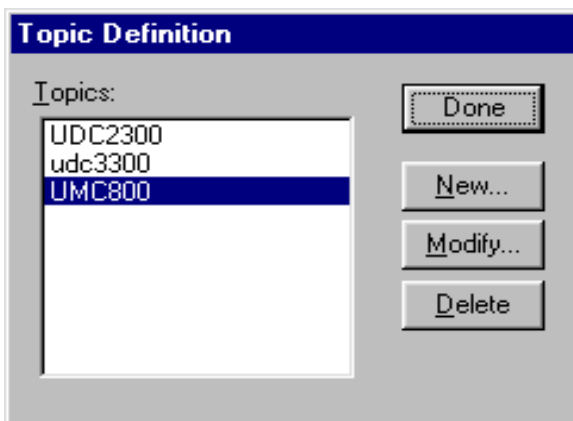
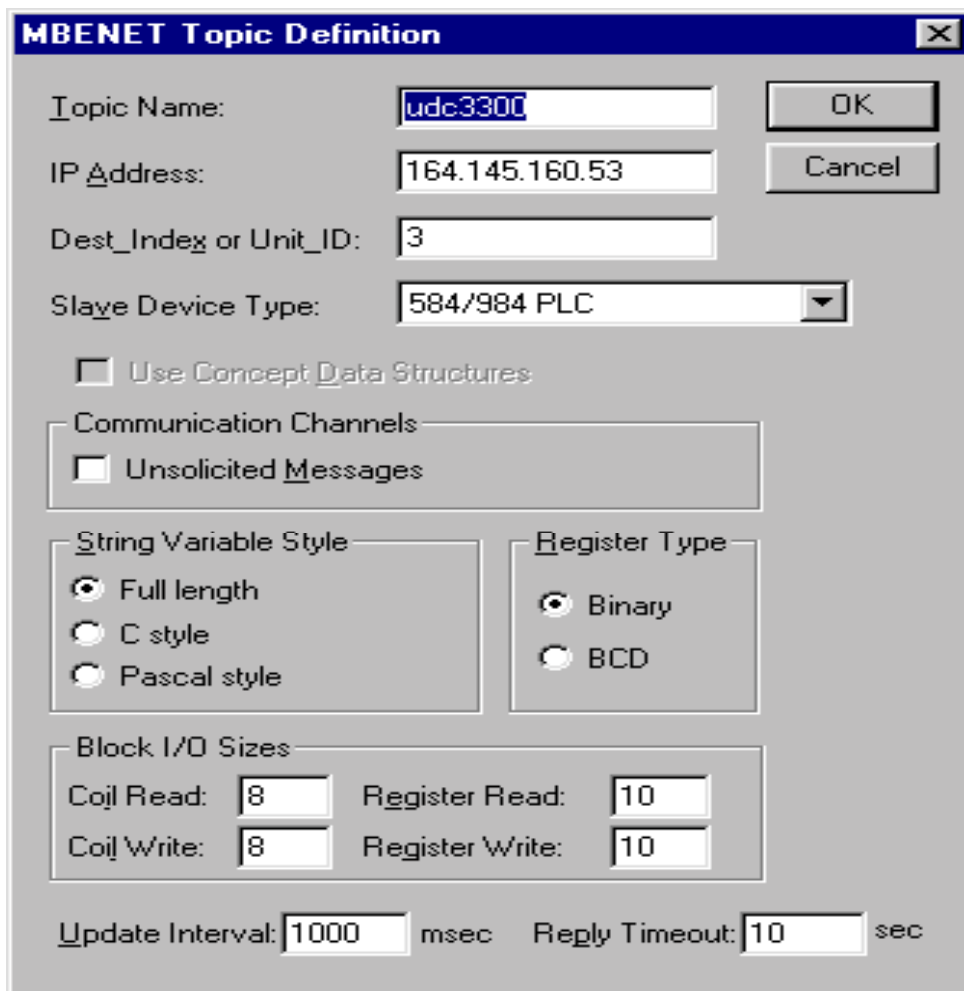

Figure 7 – Topic Definition Window
Figure 8 – MBENET Top Definition Window
Select Topic Definition. In Figure 7 three Honeywell devices have been added. The topic name is arbitrary. The names could be process meaningful names such as TIC535. We chose the names UDC3300, UDC2300, UMC800 to represent the three devices connected to a Modbus RS485 link.
To add a topic (Honeywell device), select New from the Topic Definition shown in Figure 7. The MBENET Topic Definition window (Figure 8) will appear. Fill in the blank fields to complete the topic definition.
Topic Definition. Each Honeywell device must be given a unique topic name. In the example in Figure 7 the topic name is UDC3300.
- Block I/O Sizes: This is device-dependent. Check the device's communication manual. The sizes used in Figure 8 are for a UDC3300.